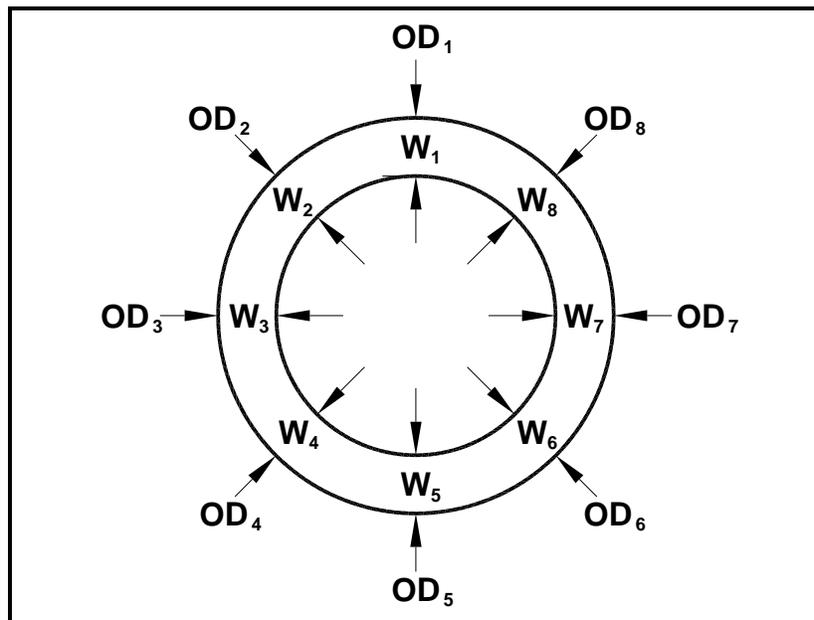

Figure 1-5: Measuring the OD and Pipe Wall Thickness
4. Now measure the OD and the wall thickness at eight points along the pipe circumference at 45° intervals (shown in Figure 1-5 below), three times per point, and record the mean values.
2. To determine the GC868 correction factor, calculate the mean inside pipe diameter (ID) and the pipe ID at the transducer locations. Then divide the square of the mean ID by the square of the ID at the transducer location, as shown in the equations below, where OD_X is the outside diameter at a given point, and W_X is the wall thickness at a given point (see Figure 1-5 on page 1-11).